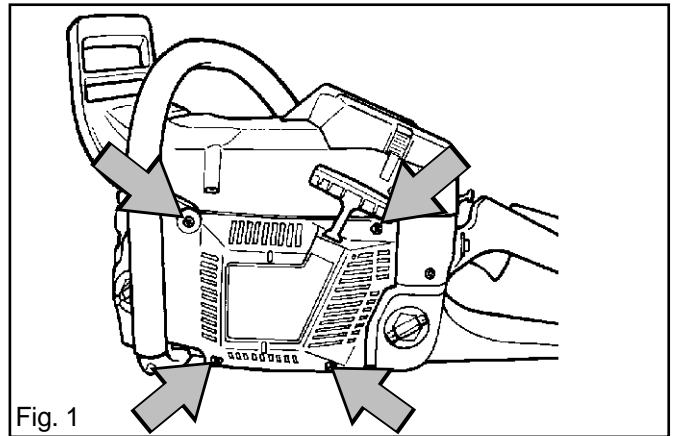

Fig. 1
1. Undo the four bolts that fasten the starter assembly to the crankcase and remove it. See fig. 1.